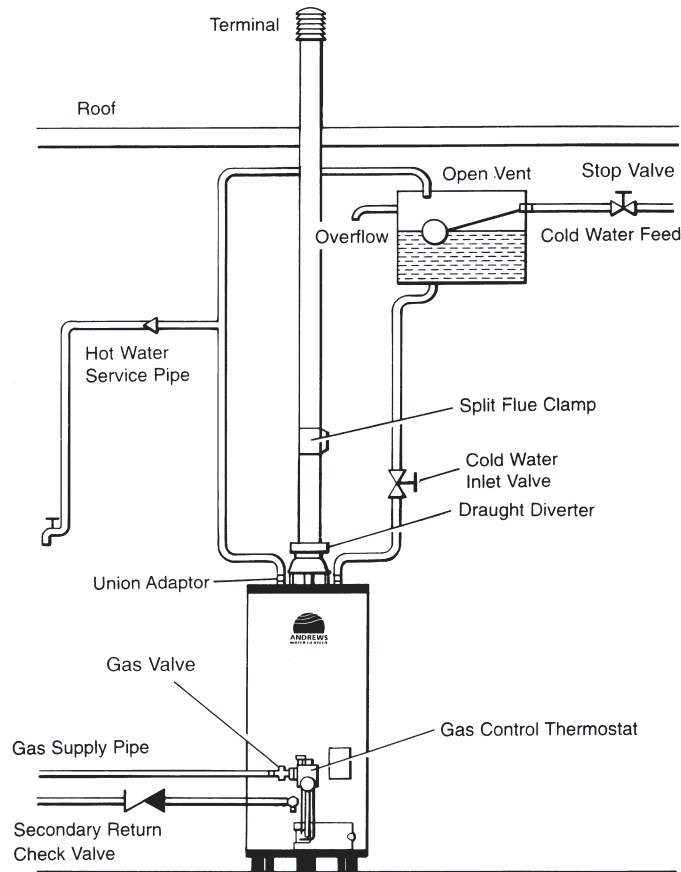

**Fig 6A.**
**Typical water service layout for Standard Range single heater vented system is shown in Fig. 6A.**